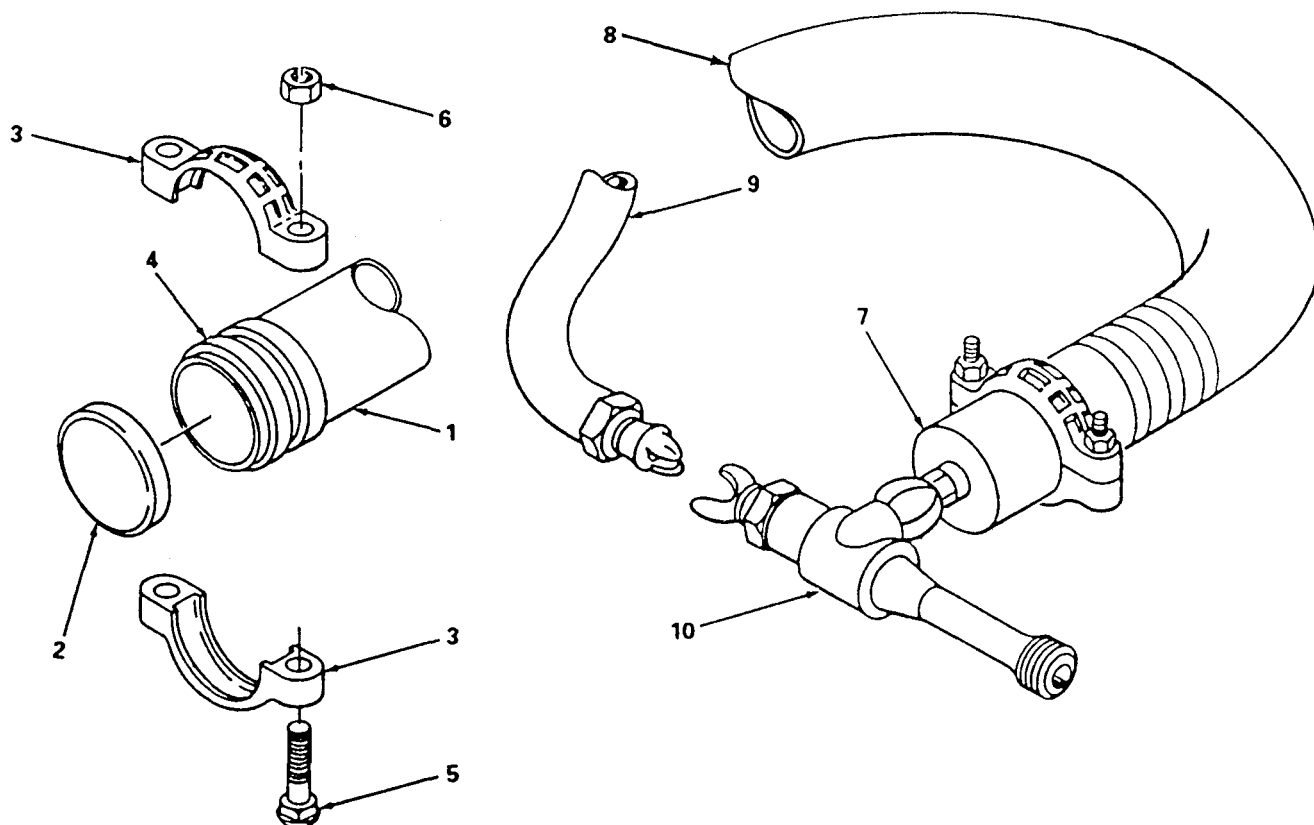

Figure 2-11. Air and Vapor Evacuation.
c. Air and Vapor Evacuation. (figure 2-11) After removal of residual fuel from hoseline, any air and fuel vapors must be evacuated so that hose can be folded flat in flaking box.